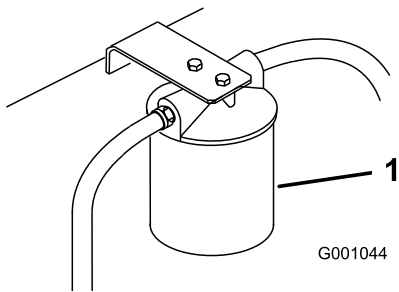

Figure 72
4. Place drain pan under filter, remove the old filter and wipe the filter adapter gasket surface clean (Figure 72).